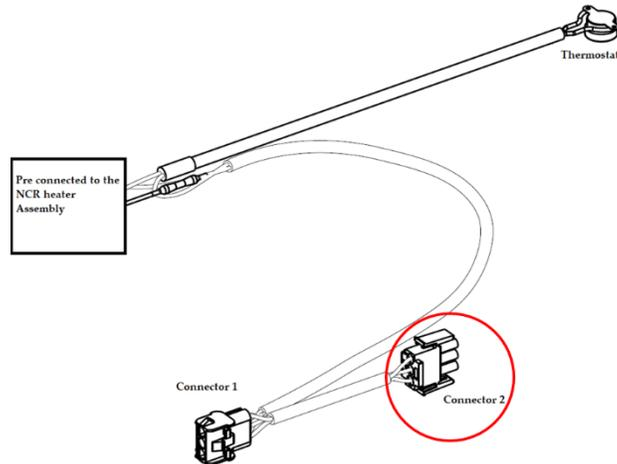
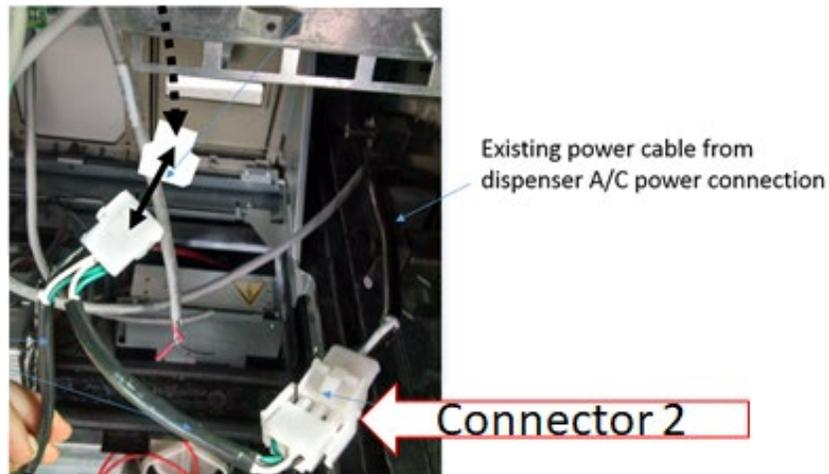

Figure 171
Figure 172
10) Affix Connector 2 (identified in Figure 171) to the existing dispenser A/C power cable as shown in Figure 172.